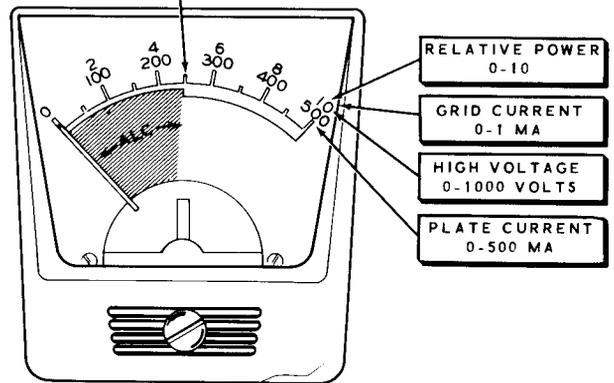

FIGURE 5-1
- () Key the Transmitter and adjust the BIAS ADJUST control for a 50 ma indication on the meter of the Transmitter. Refer to Figure 5-1 on Page 108 for the explanation of the meter scales.
Refer to Figure 5-1, and study the meter scale. Note how it reads for various positions of the Meter switch. Observe that the meter has two main scales and an ALC area. The scale numbered from 0 to 10 is read directly for relative power indications. For Grid Current readings, each small scale division represents .1 milliamperes. For High Voltage readings, each small scale division represents 100 volts.